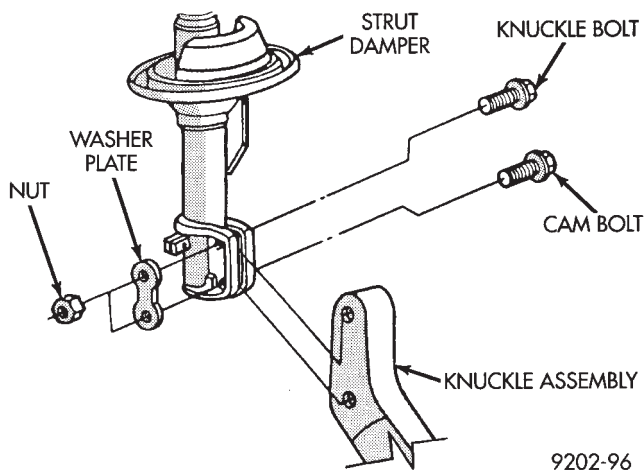

Fig. 9 Remove Or Install Steering Knuckle
(10) Remove the steering knuckle to strut damper attaching bolt and cam bolt (Fig. 9). **Note the location of the cam bolt, it must be installed in the same location when steering knuckle is installed back on strut damper.**
(3) Install the steering knuckle back on the strut damper (Fig. 9). Install the strut damper to steering knuckle attaching bolt, cam bolt, washer plate and nuts. Torque bolts to 100 N•m (75 ft.lbs.) plus 1/4 turn. **Be sure the cam bolt is installed in same location it was removed from.**